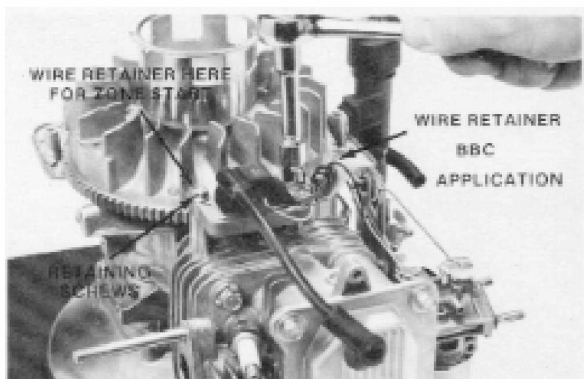

Figure 4-63
2. If the engine is a BBC model, mount the kill wire retainer to the mounting screw on the carburetor side of the engine. If the engine is zone start, mount the kill wire retainer on the muffler side of the engine. See Fig. 4-63.